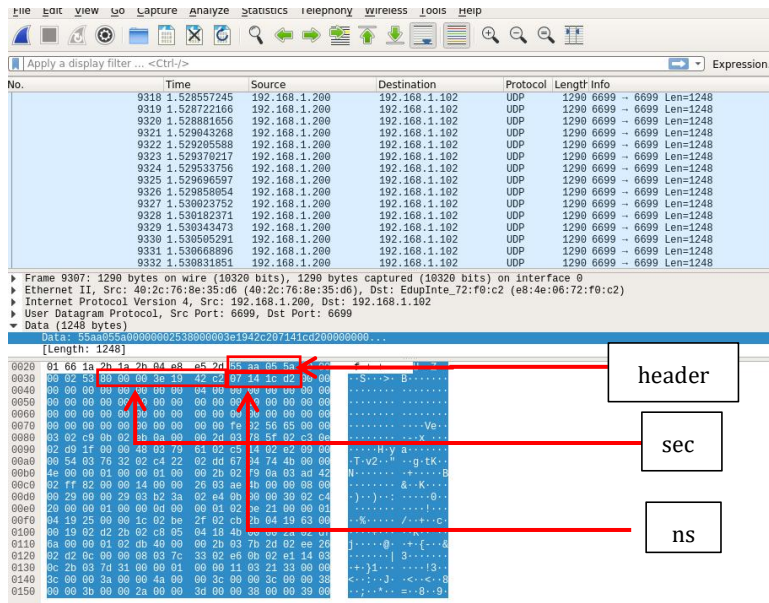

Figure 10: the Data Format of PTP.
shown in Figure 10 is 0x00003e1942c2(1041842882); the nanosecond part is 0x07141cde(118758610)
(2) The second part is UTC timestamp, which indicates the incremental count of seconds from 0:00 (London time) on January 1, 1970 to the current time. Figure 10 shows the identification of London time 2003/01/06 09:48:02;
(3) The maximum value of the nanosecond part is 0x3B9AC9FF(99999999), after the maximum value is increased by 1, the nanosecond returns to zero and the second will be added to 1, as shown in Figure 10 is 118758610 nanosecond;
(4) Most PC development environments have time conversion functions, such as including system library < time.h >, time.gmtime (&t) function can convert timestamp to London time.